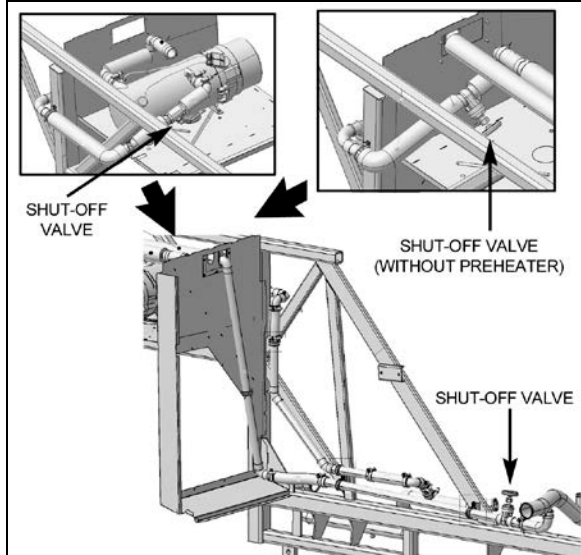
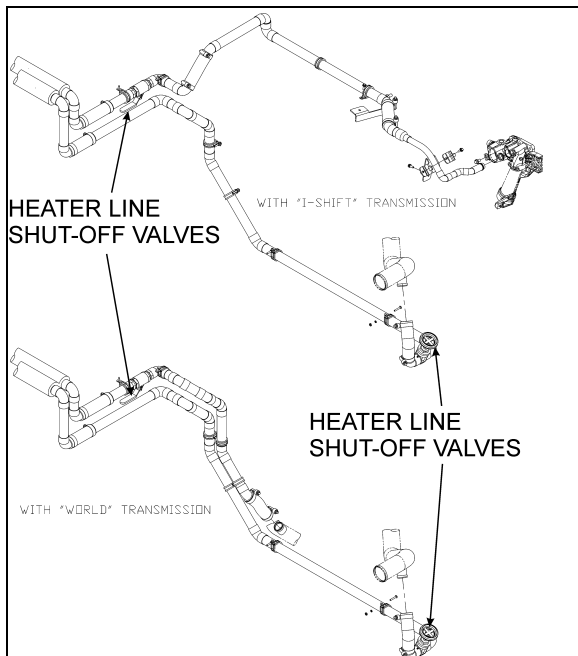

FIGURE 73: H3 SERIES HEATER LINE SHUTOFF VALVES 05144
FIGURE 74: X3 SERIES HEATER LINE SHUTOFF VALVES
3. Close the hot water lines shut-off valves located next the engine on street side (see Figure 73).
2. Close both heater line shutoff valves (Figure 73 or Figure 74). One is located in the engine compartment under the radiator fan gearbox, while the other one is located behind the L.H. hinged rear fender near the preheater.